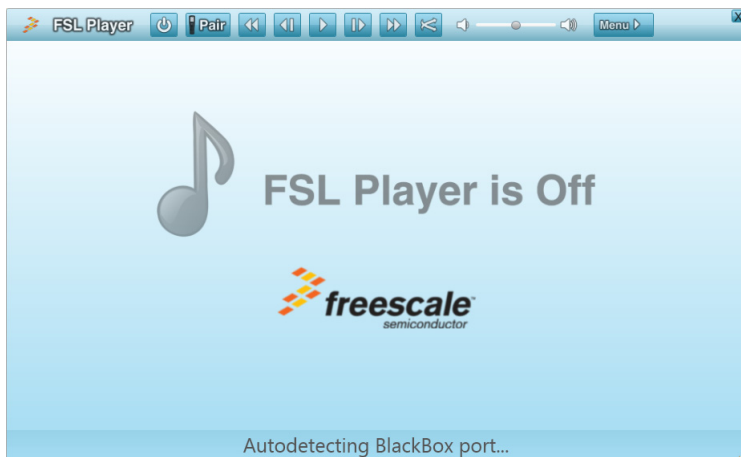

Figure 14. HECA Audio Player GUI View
- From the HECA toolbar view click the MP3 Player option. Wait until the MP3 Player view appears as shown in Figure 14.
8. When the pairing is established, both the 1323x-RCM LCD and the MP3/Audio Player GUI shows corresponding status messages as shown in Figure 14. The LCD displays the current status of the TV: “FSL MP3 is off” and the GUI shows the message: “Pairing success”.